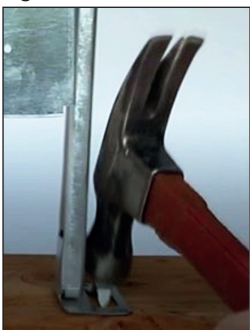

Fig. 6
- Extend hanger bars between joists. Hanger bars can be adjusted to accommodate joist centers between 16" to 24". Hammer in securement tabs into ceiling joist. [Fig. 6]